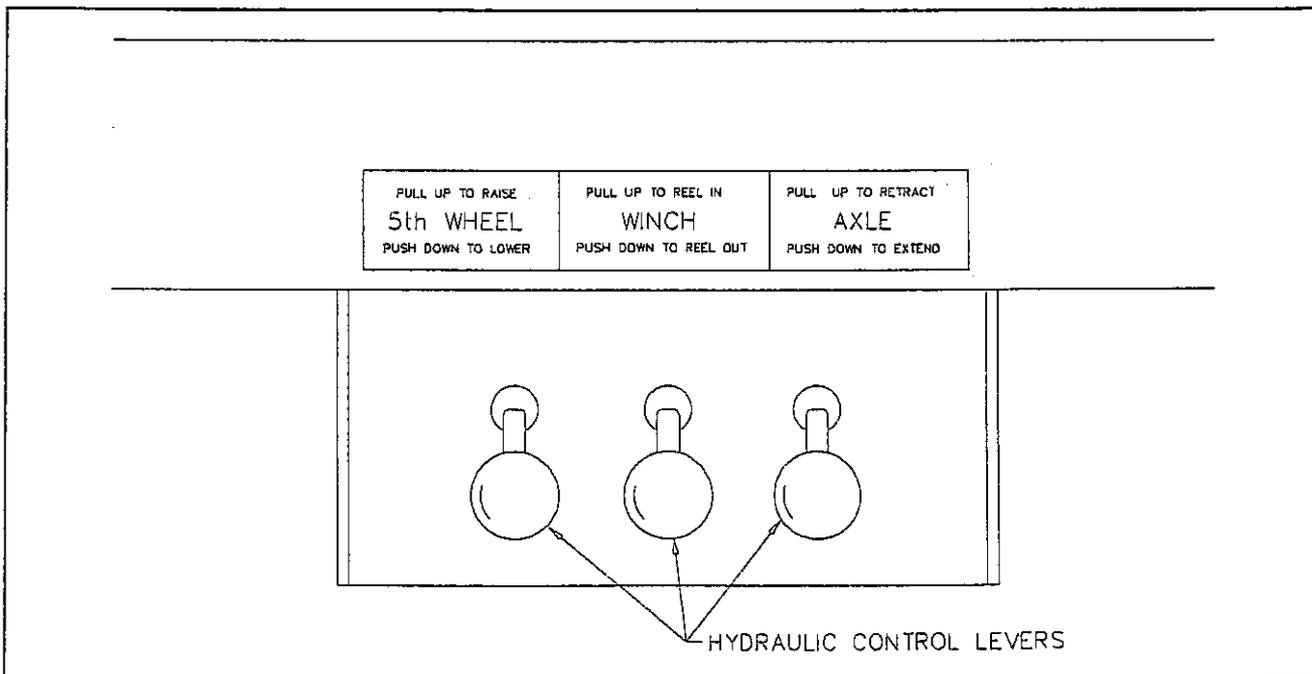

Figure 3-2 Hydraulic Control Levers
b. The king pin plate should be the same height as, or slightly lower than, the latch area of the fifth wheel plate of the tractor. If necessary, connect the tractor hydraulic lines or start the trailer hydraulic power engine. Use the **5th WHEEL** lever (see **Figure 3-2**) to raise or lower the kingpin plate sufficiently to allow proper coupling.
3-3.1 While hydraulic power is operating, raise the front end of the semitrailer with the 5th WHEEL lever (see Figure 3-2) until weight is off the landing gear. Raise the landing gear. Secure each leg in fully retracted position, with a park stand retaining pin, before transporting.
The 5th WHEEL Lever is located on the driver side of the semitrailer under the outer frame siderail (see Figure 3-2). It has three positions:
The AXLE control lever (see Figure 3-2) is the control on the right with three positions: